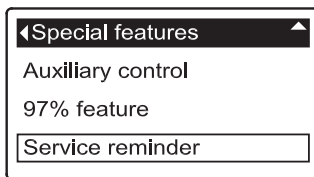

FIG. 144
1. From any of the rolling status screens, press the SELECT (O) button to display the **Main menu**.
3. Press the SELECT (O) button to display the Advanced settings menu.
5. Press the SELECT (O) button to display the Special features menu (See Figure 144).
9. Press the SELECT (O) button. The display will go back to the Special features menu (Figure 144).